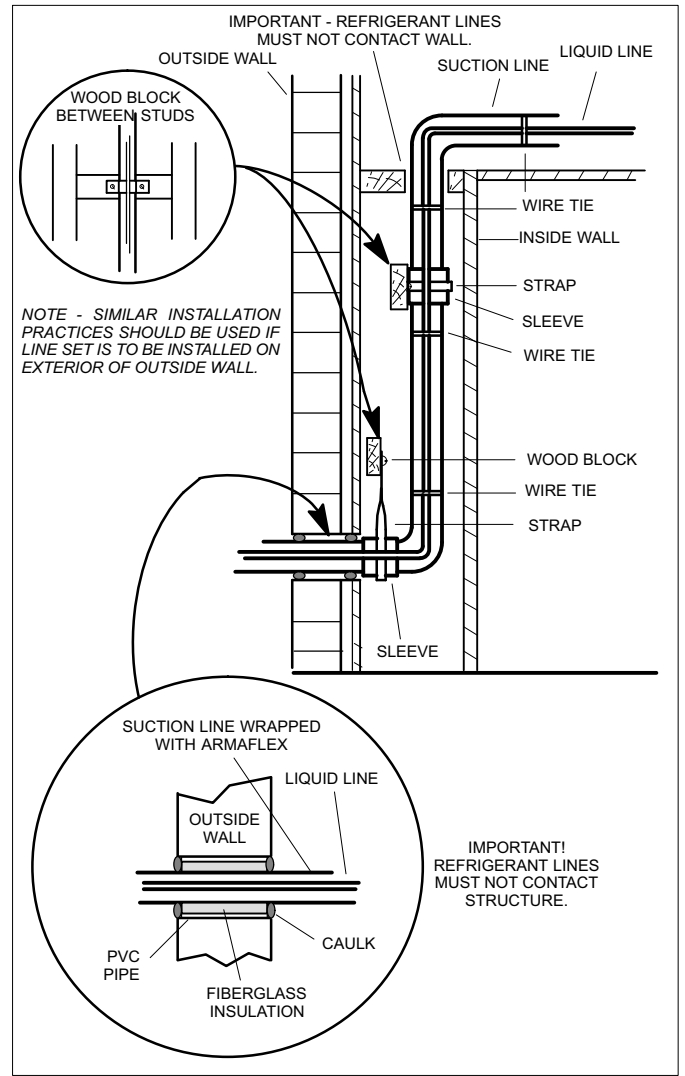

Figure 15. Refrigerant Line Set: Installing Vertical Runs (New Construction Shown)
- Installation of **line set on vertical runs** is illustrated in figure 15.